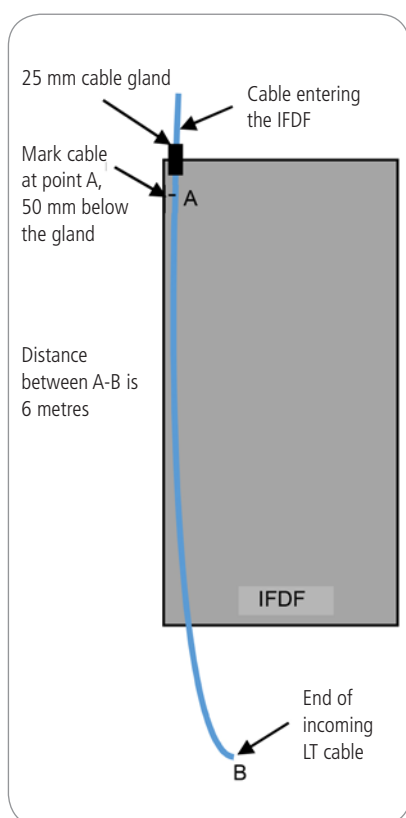

Figure 1.
- Push the cable into the gland, till it is in the required location and mark the cable jacket at point A shown in **Figure 1**. This will be around 50 mm below the gland.
- Remove the cable from the gland and measure the cable to a distance of 6 metres. Cut the excess cable off at this point. Shown as point B in **Figure 1** below